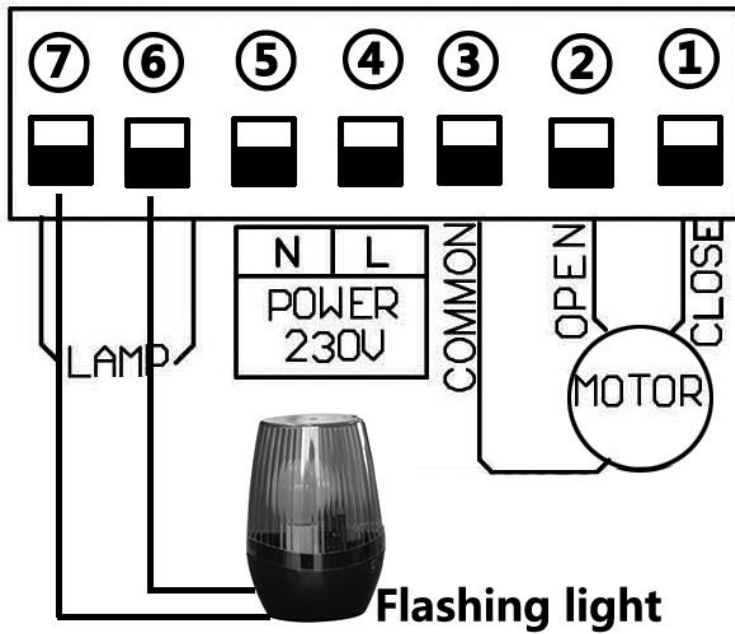

Fig 9
6.3.Connect to flashing light. (Please see Fig 9)